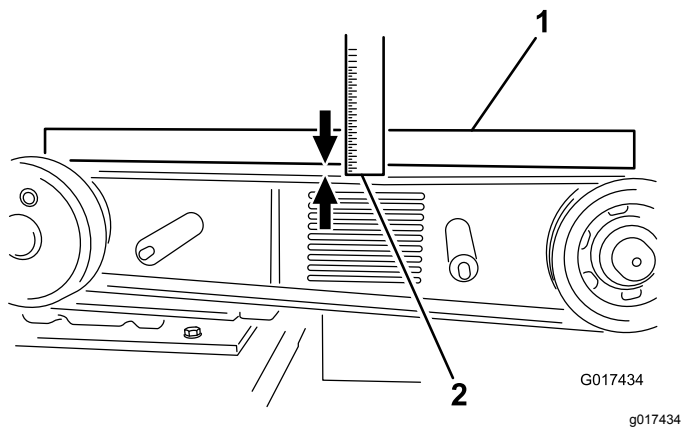

Figure 28
8. Lay a straightedge across the clutch and flywheel pulleys. Tighten the belt-tension bolt so there is 10 mm (0.40 inch) of flex in the belt when pushing down with 6.8 kg (15 lb) force at mid-span (when re-tensioning a belt in use), or with 8 kg (18 lb) force when installing a new belt (Figure 28).